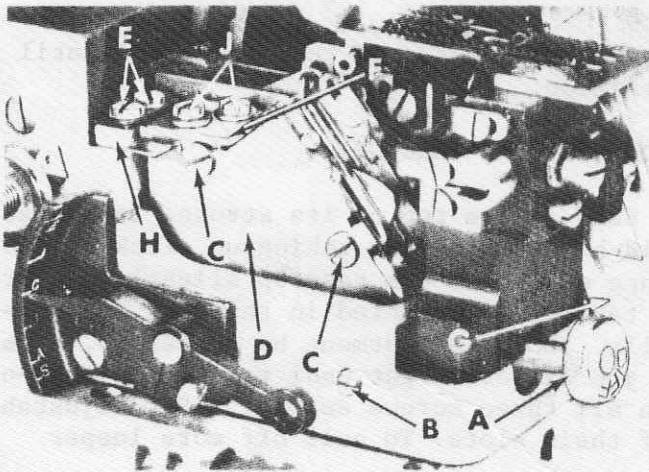
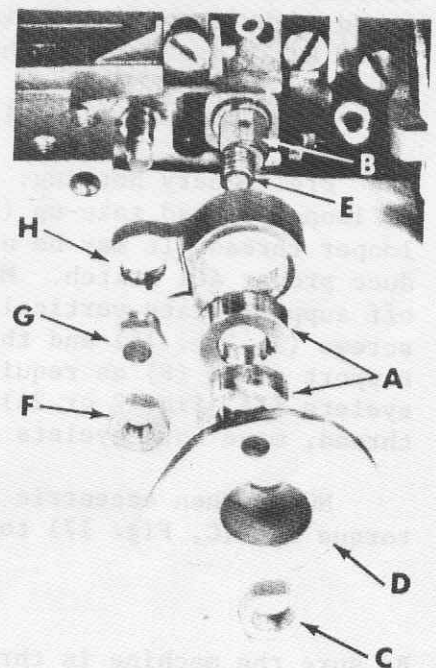

Fig. 16
Fig. 17
Set the differential thumbscrew (A, Fig. 16) to the stitch length desired and tighten lock screw (B) to lock differential feed control in place.
The outer (left) eccentrics (A, Fig. 17) actuate main (rear) feed dog. In assembling feed eccentrics, be sure hubs are facing each other. Be careful not to damage the shaft or key.
To change feed eccentrics, remove screws (C, Fig. 16) securing cast-off support end plate (D); remove screws (E) and screw securing the extreme right end of cast-off support plate (F) accessible with chip chute (G) open; turning handwheel to position 401 looper at extreme right, permitting removal of the left main feed thrust bar guide (H) with cast-off support plate (F) assembled. Remove nut (C, Fig. 17)
If eccentrics are unusually tight fitting, in addition to removing nut (C) and take-up (D, Fig. 17) from shaft (E), it may be helpful to remove nut (F), ferrule (G) and feed driving connection (H). Then continue as originally suggested.
NOTE: Before tightening nut (C, Fig. 17) refer to paragraph under "401 Looper Thread Control.
Preliminary Setting: With the needle head at the top of its stroke, long flat of looper thread take-up (D, Fig. 17) should be set to begin taking up slack of the looper thread. It may be necessary to advance or retard cam take-up slightly, to produce proper 401 stitch. Make sure the cam take-up is centered in the slot of cast-off support plate vertically and horizontally. Should adjustment be necessary, loosen screws (J, Fig. 16) and the screw securing the extreme right end; reposition cast-off support plate (F) as required and retighten all three screws securely. Set adjustable eyelets (AA, Fig. 2 or 2A) in the center of their slots. To pull off more looper thread, move both eyelets down.
NOTE: When eccentric cams are changed or cam take-up requires adjustment, always torque nut (C, Fig. 17) to 24-25 in. lbs. (28-39 cm/kg).